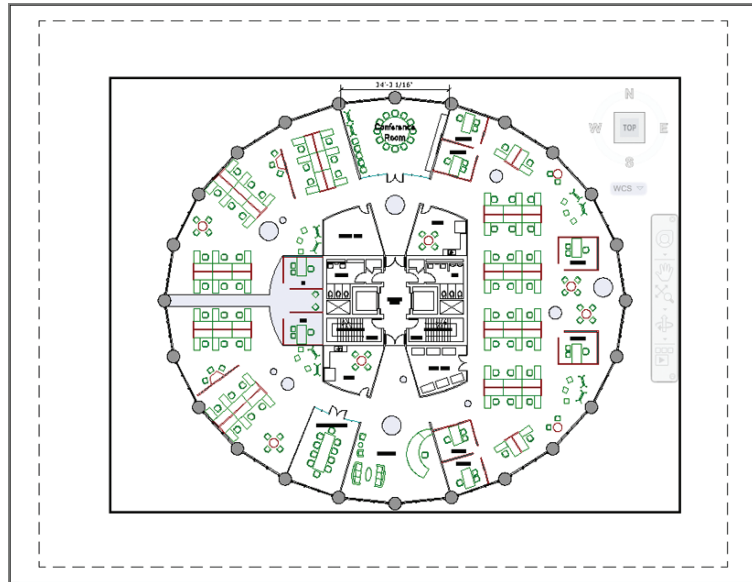

FIGURE 13.13 Modelspace active inside a floating viewport
3. Click the PAPER icon on the status bar. This icon toggles between paperspace and modelspace, and the word displays which space you are currently in (now modelspace). The viewport's frame highlights with a thicker representation when displaying modelspace (see Figure 13.13). Move the cursor inside the viewport, and observe that the crosshair cursor is available only within the viewport.